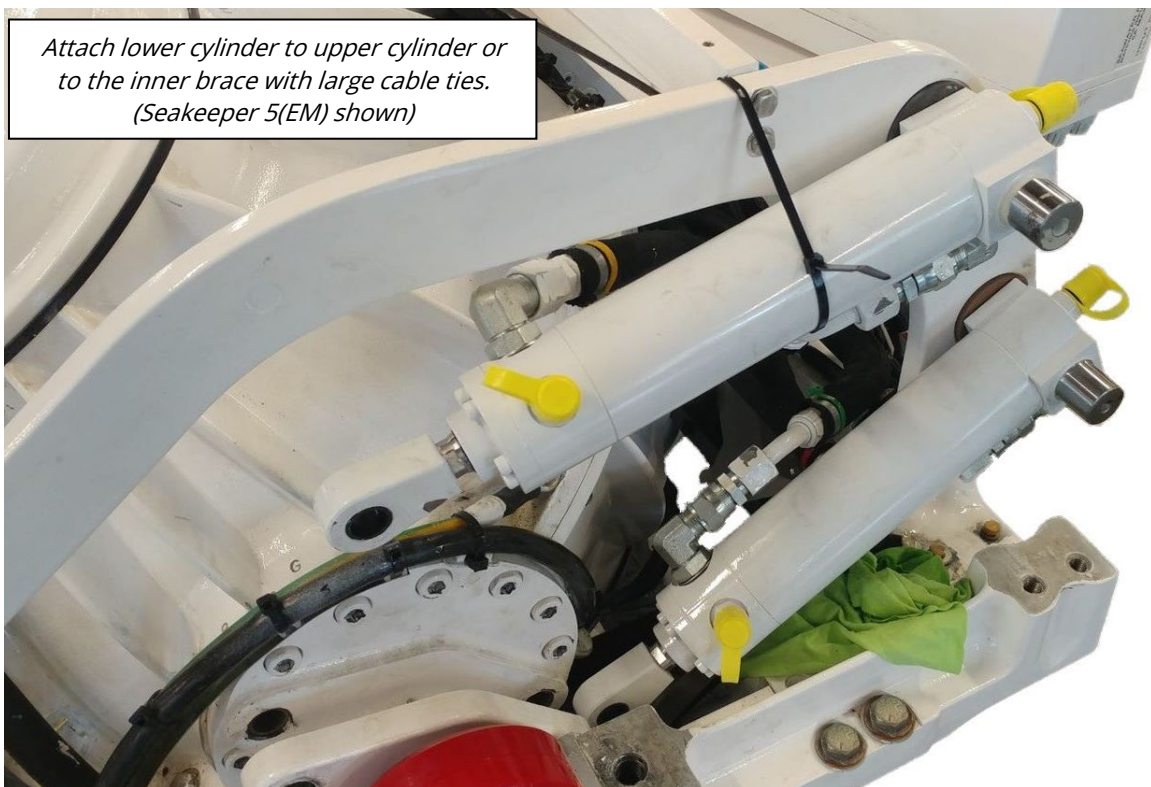

Figure 12: Cylinder restraint
- 2 **ATTACH** cylinders to inner brace(s) with cable ties. (fig.12)